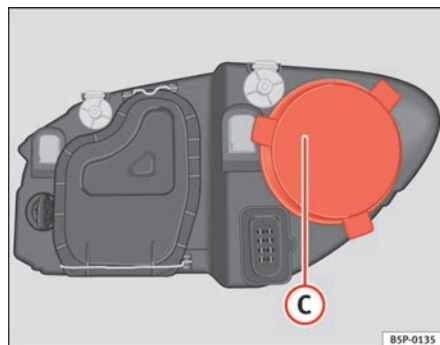

Fig. 186 Main beam headlights
- Remove the cover ⇒ fig. 186 ① by pulling on this.